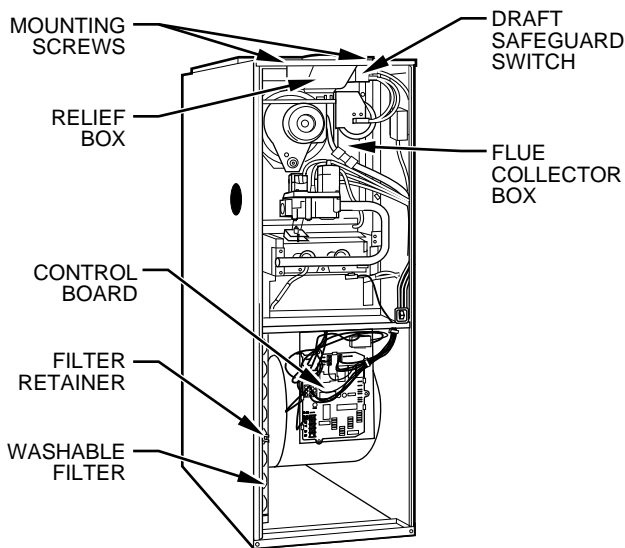

Fig. 6—Model GB1AAV Upflow
Each furnace requires 1 or 2 filters which are installed in the blower compartment. (See Fig. 6.) To remove filters for cleaning or replacement, proceed as follows:
- Release filter retainer from clip at front of furnace casing. (See Fig. 6.) For side return, clips may be used on either or both sides of the furnace.
5. Disconnect electrical leads from control. (See Fig. 6 or 7.) Note location of wires for reassembly.
4. Remove 2 screws that secure relief box. (See Fig. 6 or 7.)